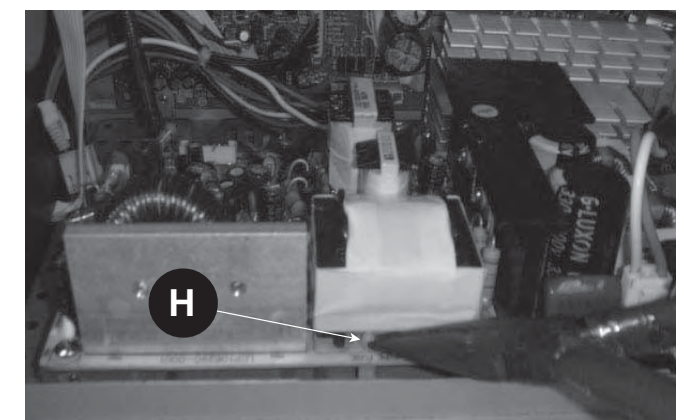

Figure 8
- 2) Remove the catch "H" using cutter as shown in figure 8.